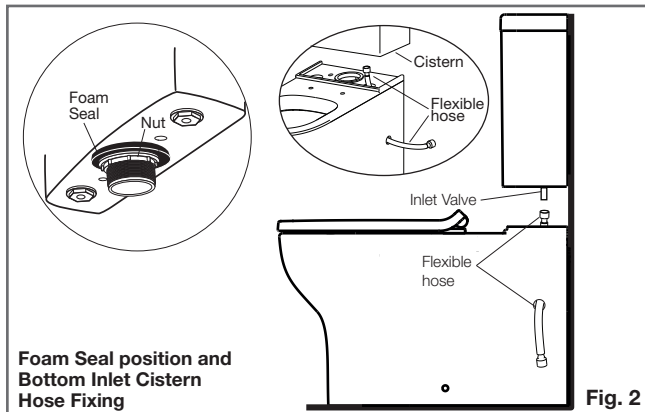

Fig. 2
- 1- Securely attach the self-adhesive Foam Seal around the outlet on the base of cistern, as detailed in Fig. 2. Remove outlet valve to gain access to the cistern fixing holes.
- 2- Connect flexible hose to inlet valve and thread other end of flexible hose through side hole on pan, as detailed in Fig. 2. Position cistern onto pan and align the cistern fixing holes with the threaded fixing holes located in the cistern platform. Fit the seals onto the Winged Fixing Bolts.